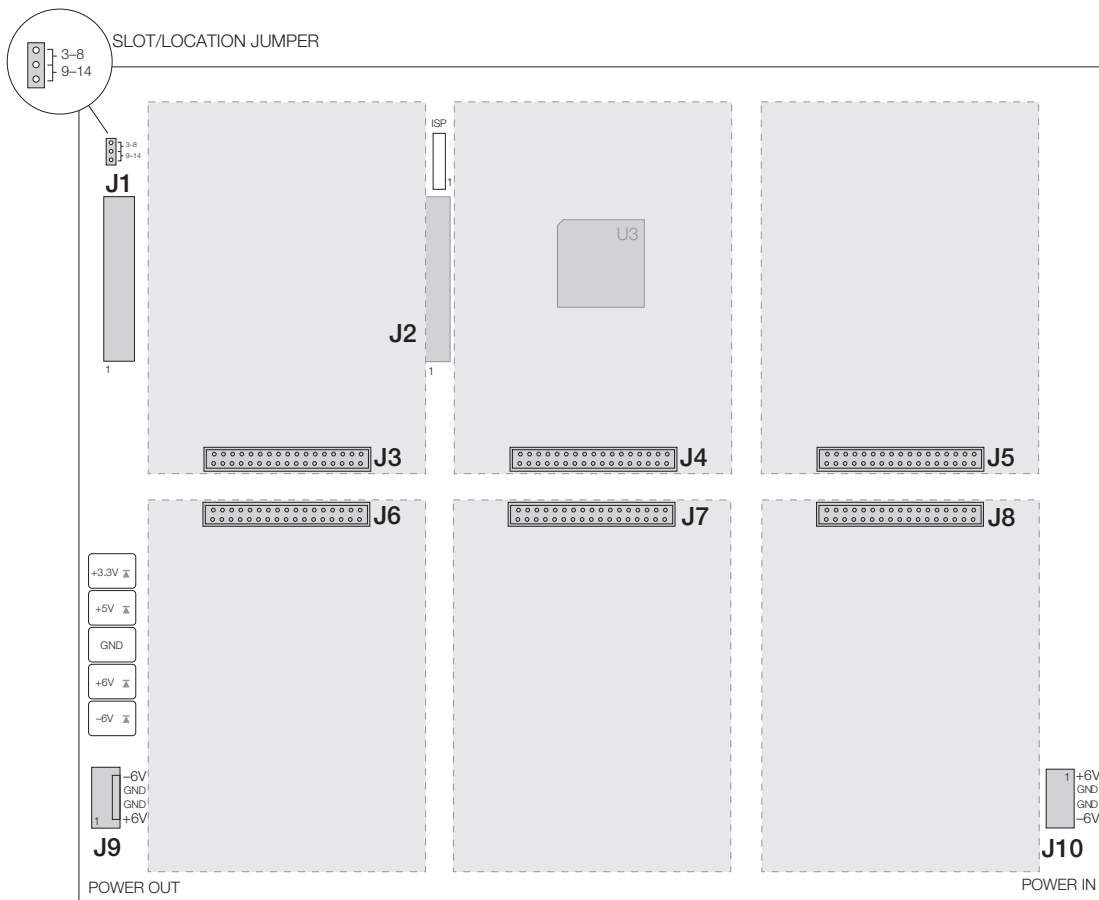

Figure 1. Six-Card Expansion Board
10. Set the slot/location jumper to the 3–8 position (see Figure 1 on page 1).